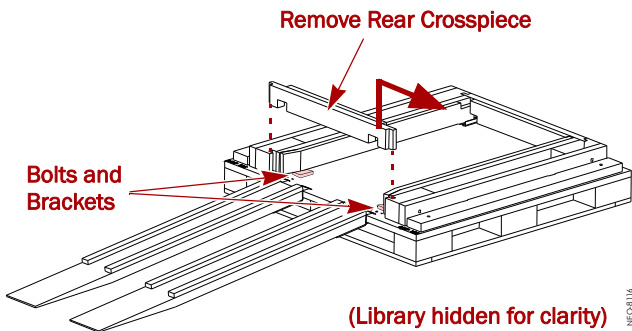

Figure 6. Removing the Rear Crosspiece
- a. To access the hold-down bolts and leveling legs, remove the **rear crosspiece** (Figure 6).